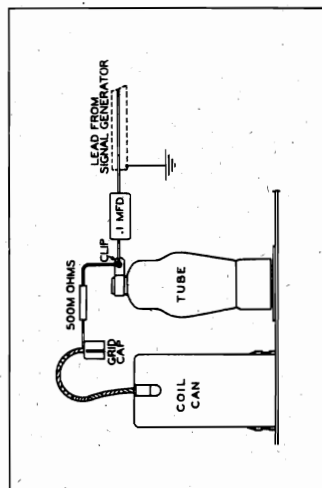

Figure 2
1. Connect the signal generator to the control grid of the 6X4. Connect a 330 ohm grid leak resistor from the top of the tube. Connect a 500,000 ohm grid cap just removed from the tube. (See Fig. 2.) Turn the condenser gang completely out of mesh. Connect an output meter across speaker voice coil.